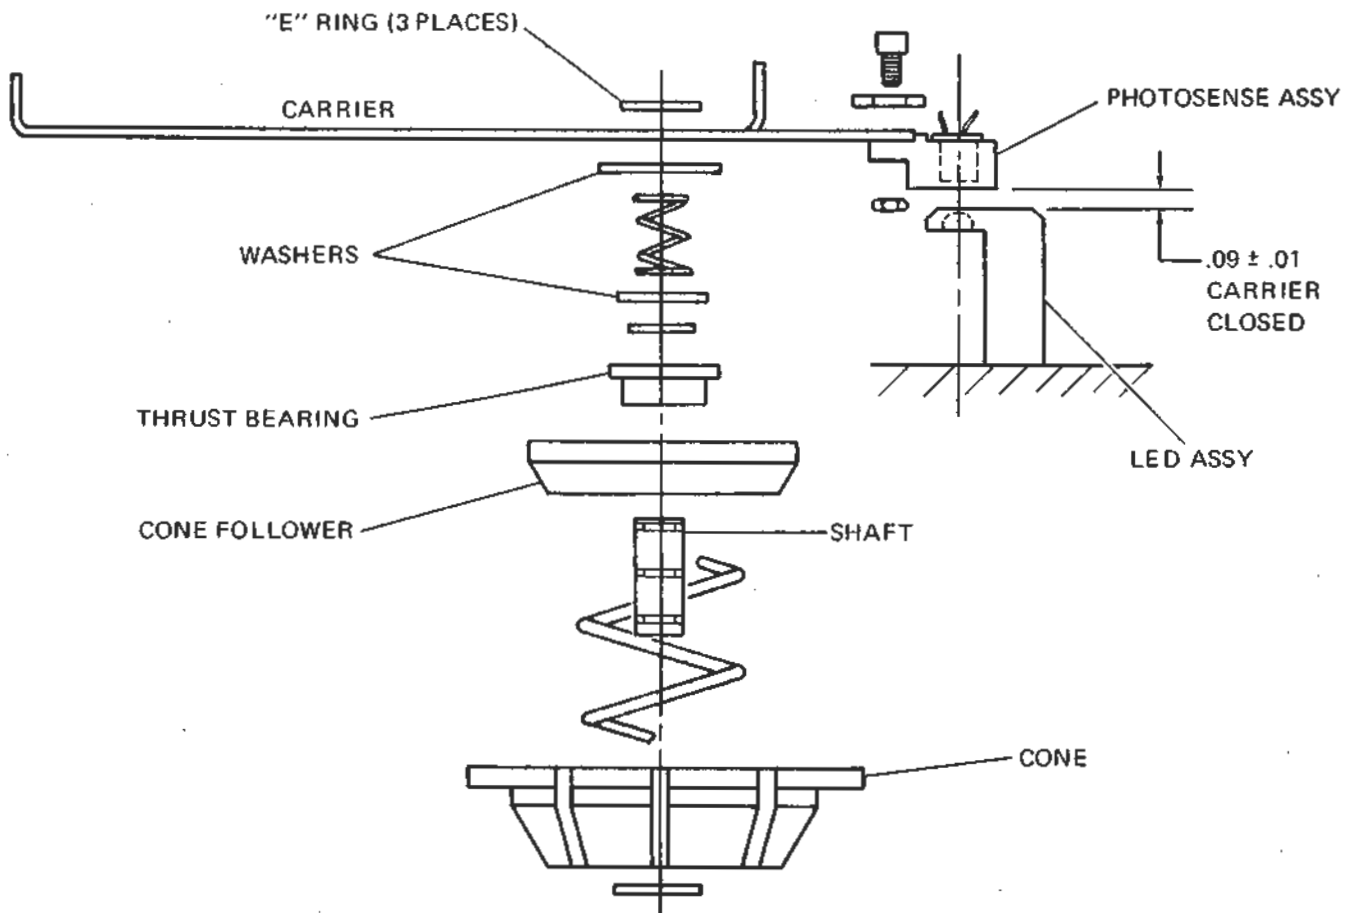

Figure 2-4. Index Transducer Alignment and Replacement
- c. Slacken No. 2 Allen cap screw securing photosense to carrier. (Figure 2-4.)
- c. Remove E ring holding the cone assembly to the carrier. (Figure 2-4.)